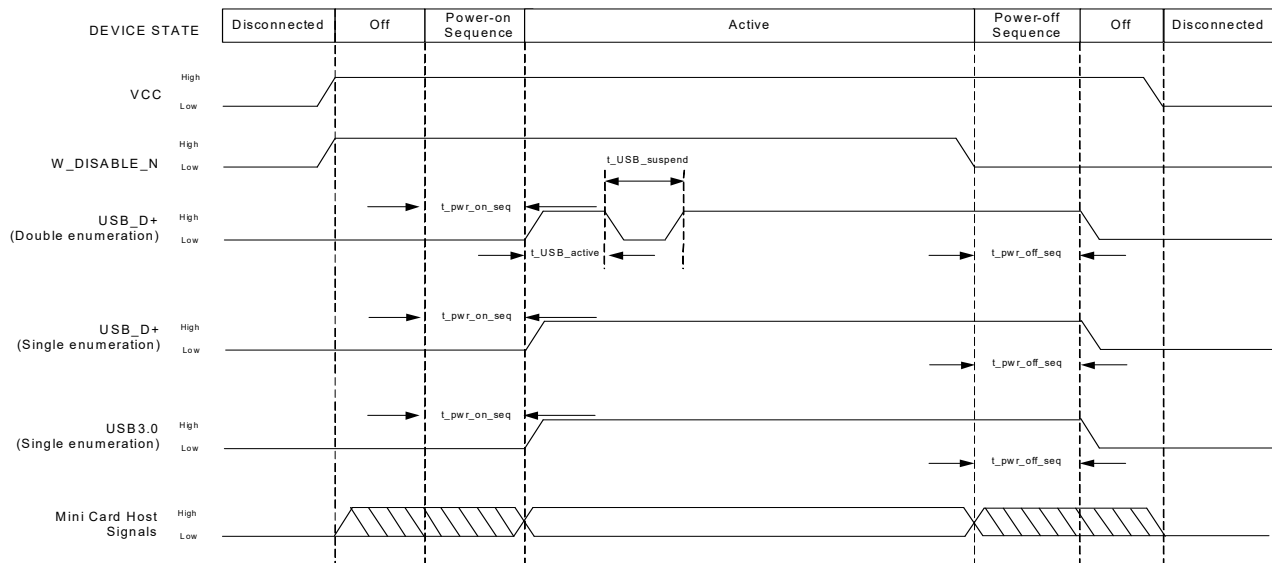

Figure 4-2: Signal Timing ($W_DISABLE_N$, and USB Enumeration)
Figure 4-2 describes the timing sequence for powering the module on and off.
- Double enumeration — As shown in Figure 4-2 on page 42: